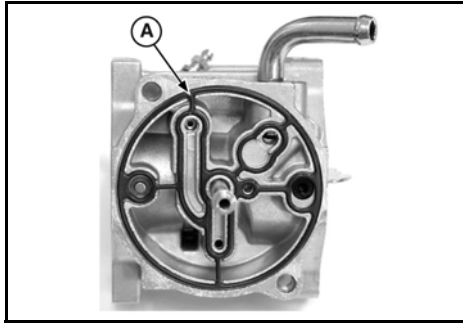

Figure 58
5. Remove the float bowl gasket (D, Figure 58) from the carburetor body. Discard the gasket.